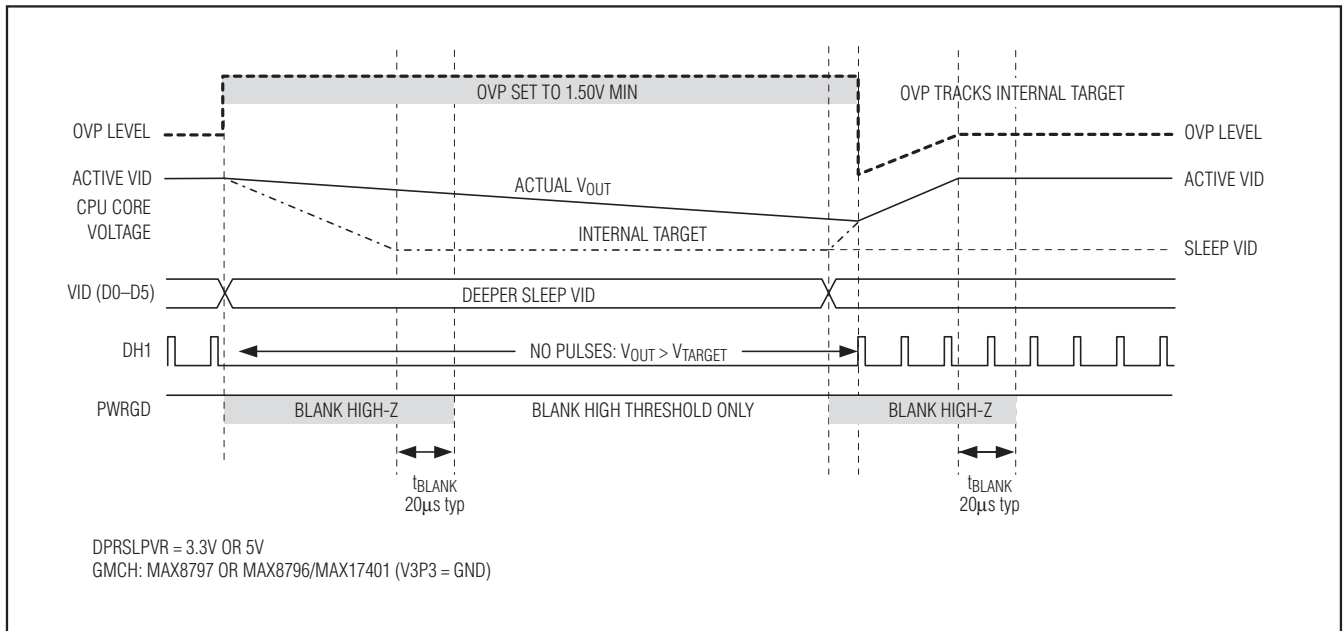

Figure 9. Early Exit GMCH Sleep Transition
- **Early GMCH sleep exit:** When exiting the sleep state while the output voltage still exceeds the internal target (the sleep voltage), the controller quickly slews ( $50mV/\mu s$  min regardless of  $R_{TIME}$  setting) the internal target voltage to the new VID DAC code as long as the output voltage exceeds the new target. Once the internal target reaches the output voltage, switching begins and the controller continues to ramp up the internal target and output voltage at the slew rate selected by  $R_{TIME}$ . The controller blanks PWRGD (forced high impedance) until  $20\mu s$  after the transition is completed. See Figure 9.